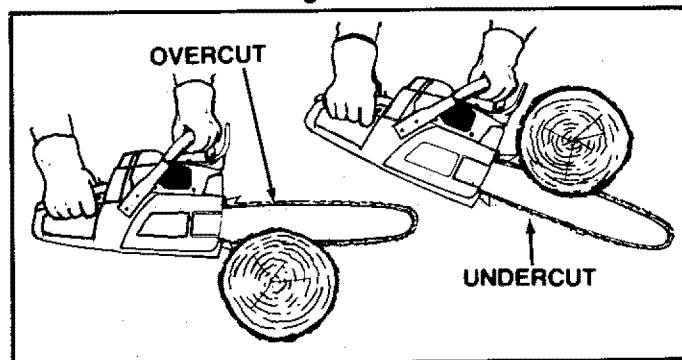

Figure 21
2. TYPES OF CUTTING USED Figure 21.